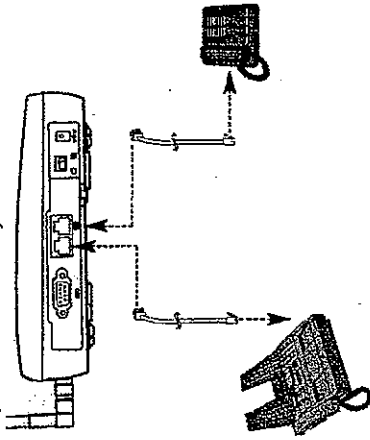

Figure 12 - Dual Jack mode connections.
1. Connect a fax machine to the unmarked phone jack on the SX5 - see Figure 12.